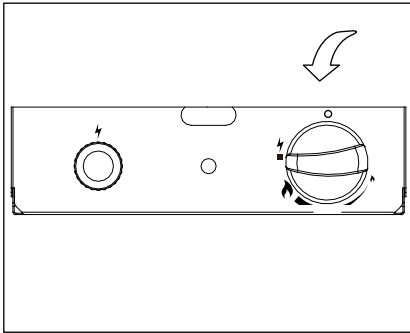

Figure 2
- Push in control knob and turn counterclockwise to “PILOT” () (Figure 2).